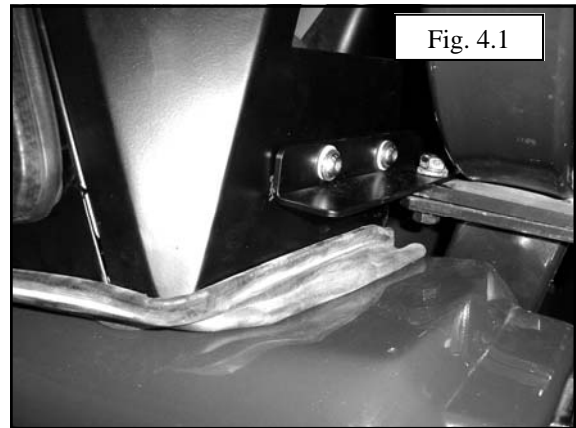

Fig. 4.1
4.1 With assistance, position the left side frame assembly and attach to left rear mount with (2) 1" long 5/16" button head bolts, washers, and nuts. Reference figure 4.1